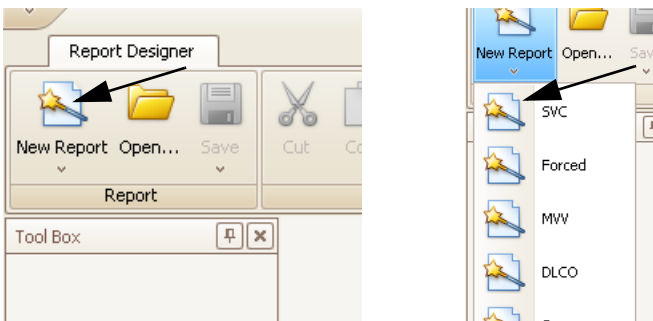

Fig. 10-2: New Report button (left), test selection (right)
- On the Report Designer tab, select **New Report** (Fig. 10-2: left).
- Select the test to which you want to add the logo (Fig. 10-2: right).